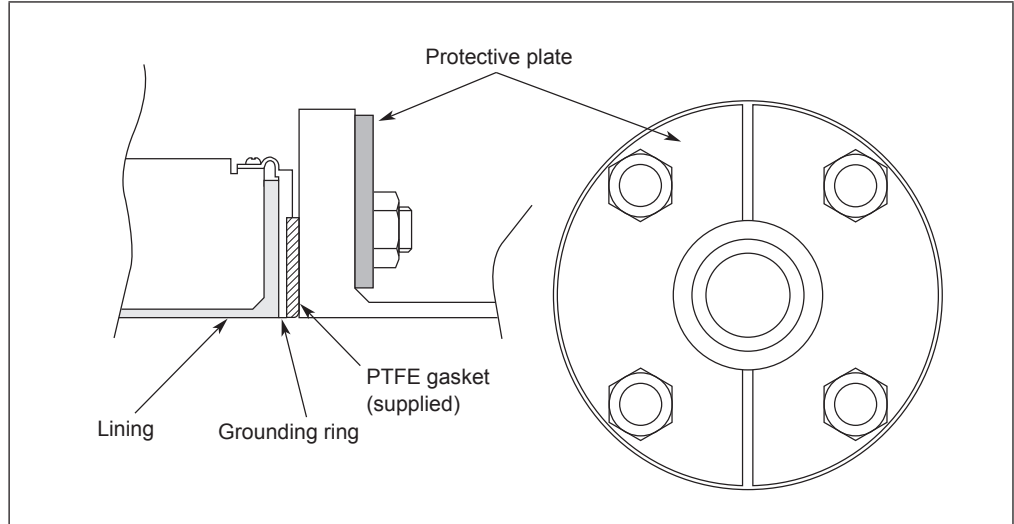

Fig. 2-18. Installation using the grounding ring of Non-SUS material (with protective plate)
- Protective plate: A protective plate is required if tightening the bolts to the specified torque may deform or damage the PVC pipe. Use stainless steel or similar hard metal 1 mm thick or over. For the shape, see Fig. 2-18.
Insert a protective plate between the outer side of the PVC flange and the detector as shown in Fig. 2-18. The protective plate protects the PVC pipe from deformation or damage when it is secured to the specified torque. For the appropriate torque, see Table. 2-1 on page 2-8.